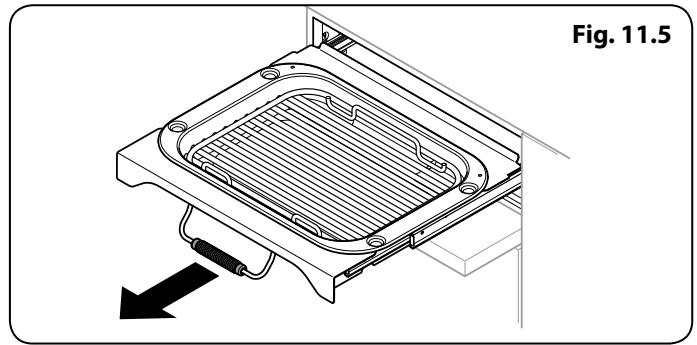
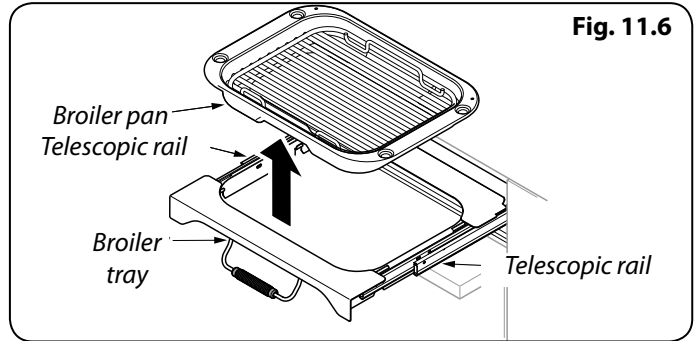

Fig. 11.5
Fig. 11.6
1. To remove the broiler pan, pull the tray assembly forwards (**Fig. 11.5**) and then lift the broiler pan clear of the broiler tray assembly (**Fig. 11.6**).